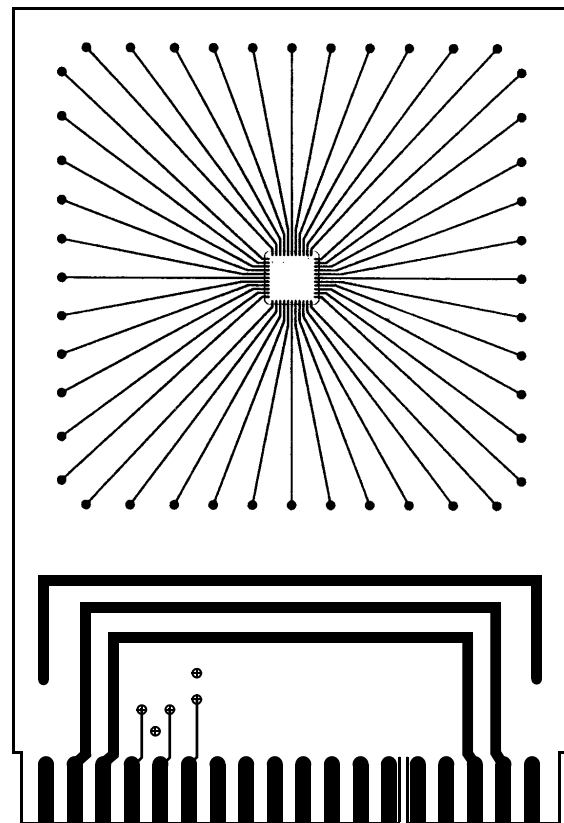

FIGURE 1. TOP VIEW - TYPICAL TEST BOARD
- Figures 1 and 2 show a typical test board from Top and Side Views.